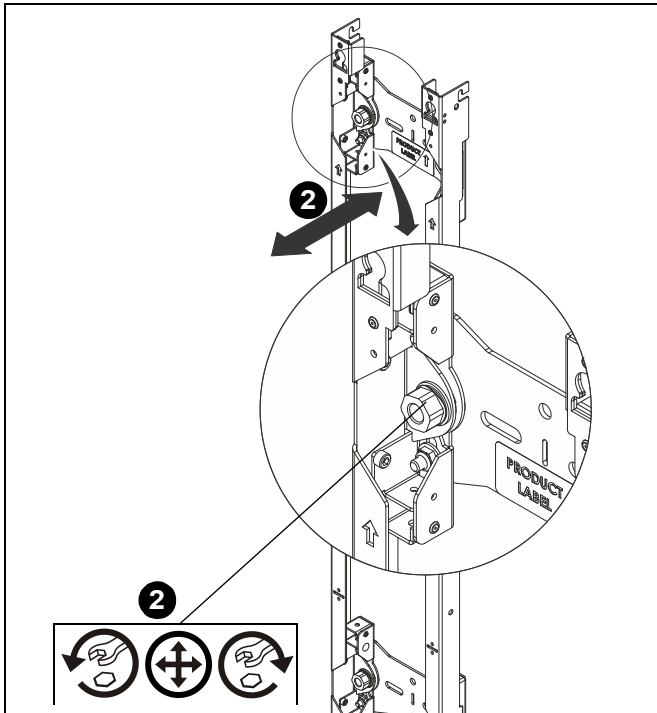

Figure 15
2. Turn 3/4" hex nuts on upright to adjust depth as needed. (See Figure 15)